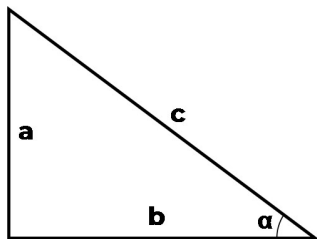

Figure 11-1. Right triangle
1. Refer to previously shown Figure 11-1 (p. 19)